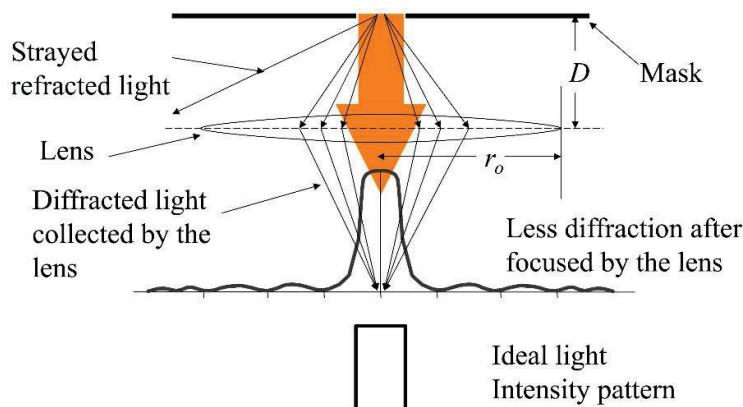

Figure 2: Diffraction of light collected by optical lens.
- (6). (a). A lens is used to diffract the light passing through the reticle in photolithography process as shown in Figure 2.